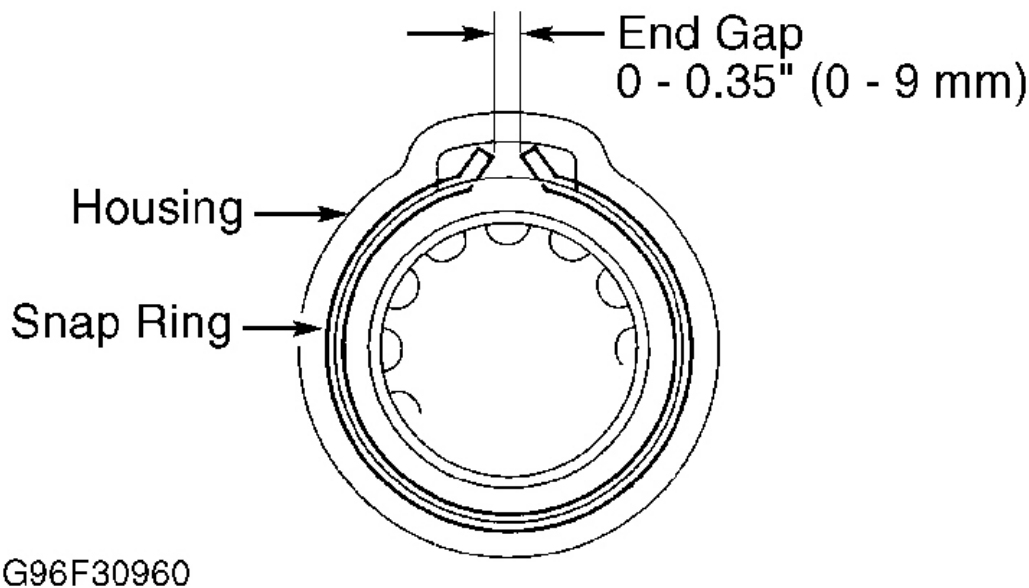

Fig. 26: Measuring Snap Ring End Gap
2. Release pliers, then push bearing down into housing until ring snaps in place around bearing. After installing bearing, ensure snap ring is seated in bearing and housing grooves. See **Fig. 26** . Ensure bearing operates properly and snap ring end gap is 0-.35" (0-9 mm).